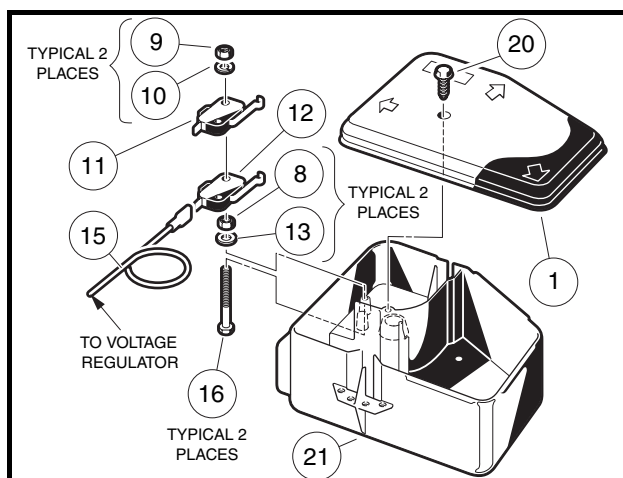

Figure 14-17 Accelerator Starter and Kill Limit Switches
2. Remove electrical component box cover (**Figure 14-17, Page 14-15**).
2. Remove electrical component box cover (1) (**Figure 14-17, Page 14-15**).
3. Remove the two nuts (9) and washers (10) securing the accelerator pedal limit switch (11). Do not disconnect the wires attached to switch (11) (**Figure 14-17, Page 14-15**).
4. Disconnect the two white/black wires and the black wire from the kill limit switch (12).
5. Remove the kill limit switch (12).
1. Install the kill limit switch (12) onto the two screws (16) (**Figure 14-17, Page 14-15**).
2. Connect the two white/black wires to the common (COM) terminal and the black wire to the normally open (NO) terminal of the kill limit switch (12) and place the switch on the mounting screws located in the electrical component box. Place the accelerator limit switch (11) on the mounting screws located in the electrical component box.
3. Secure the switches using two washers (10) and two nuts (9). Tighten to 5 in-lb (0.6 N·m). **See following CAUTION.**